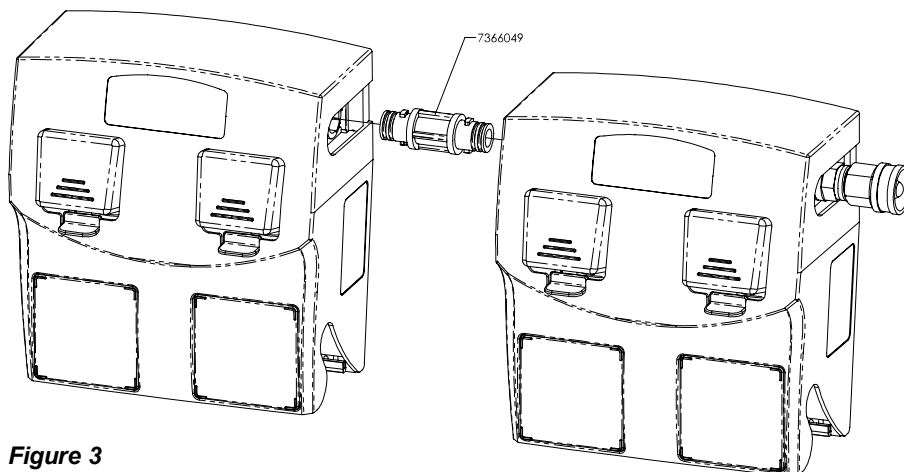

Figure 3
- Multiple units can be connected side by side using the quick connector (7366049) for any configuration that is required. See **Figure 3**